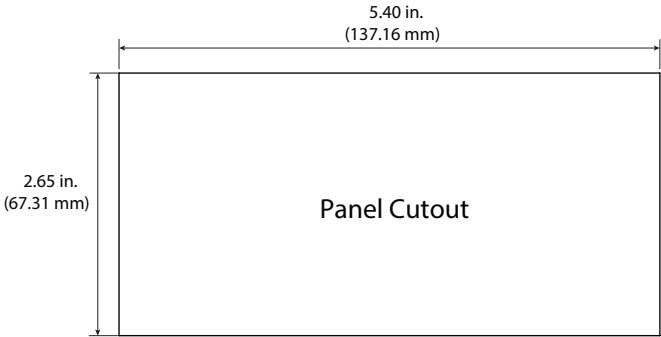

Figure 1: Panel cutout
1. Measure and cut a mounting hole to the dimensions shown in Figure 1.